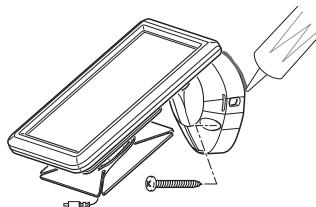

Figure 8
- Place the solar panel against the mounting surface and mark the mounting holes (see Figure 8).